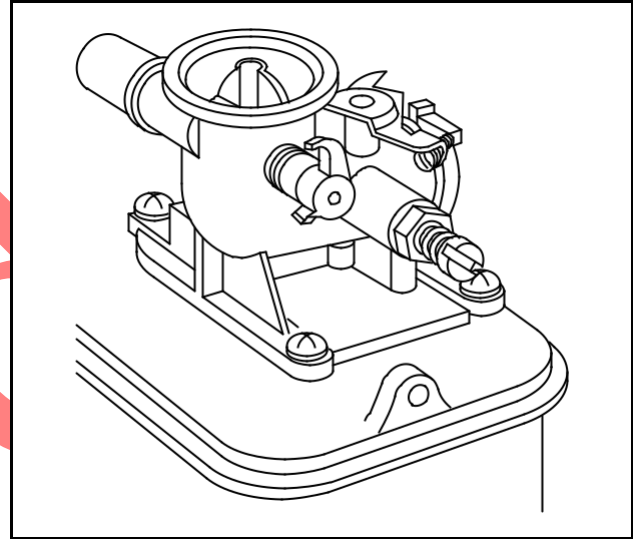

Fig. 240 - CHOKE LEVER POSITION
3. Choke shaft lever should be as shown in Fig. 240.